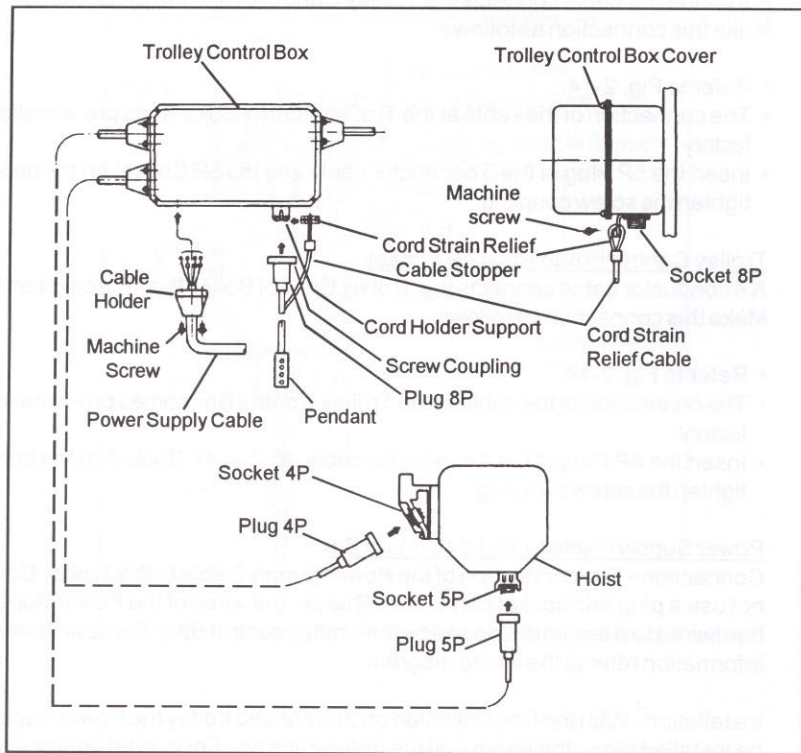

Fig. 2-14
The electrical interconnections for a hoist installed on a motorized trolley involves four cables as listed below and as shown by Fig. 2-14.
- Refer to Fig. 2-14.